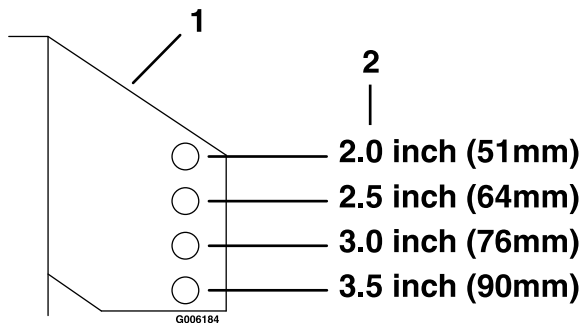

Figure 11
6. Adjust the anti-scalp rollers for the normal operating conditions. Place rollers in one of the positions shown in Figure 11. Rollers will maintain 3/4 inches (19 mm) clearance to the ground to minimize gouging and roller wear or damage.